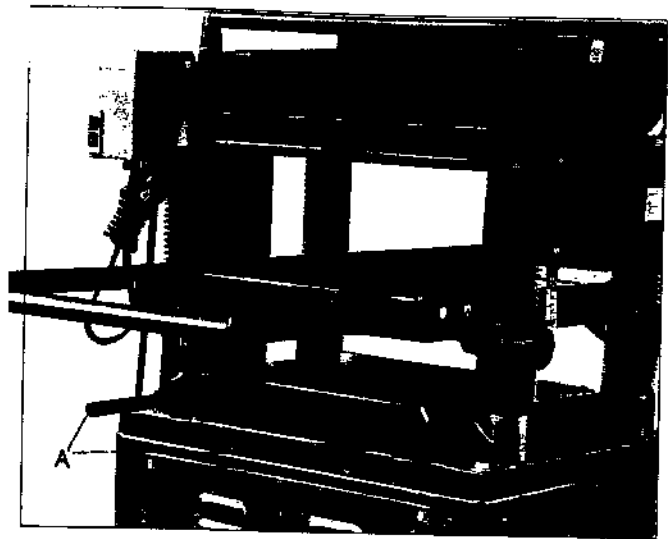

Fig. 1
There are four lifting handles, furnished. All lifting handles are of hidden type. Pull the handles out for use, push in when not in use. Two of the lifting handles (A) are as shown in Fig. 1